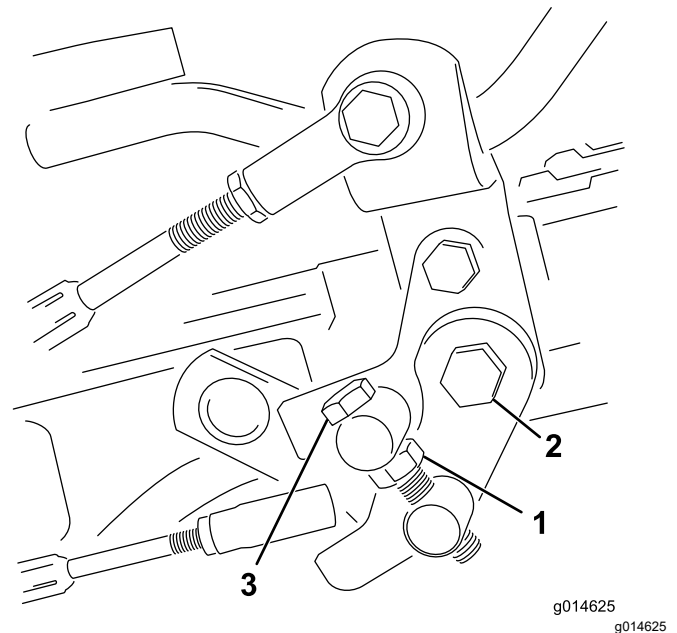

Figure 43
1. Loosen the jam nut on the trunnion bolt (Figure 43).
4. Tighten the jam nut on the trunnion bolt and the nut on the pedal pivot to lock the adjustment (Figure 43). Check the adjustment and adjust as required.